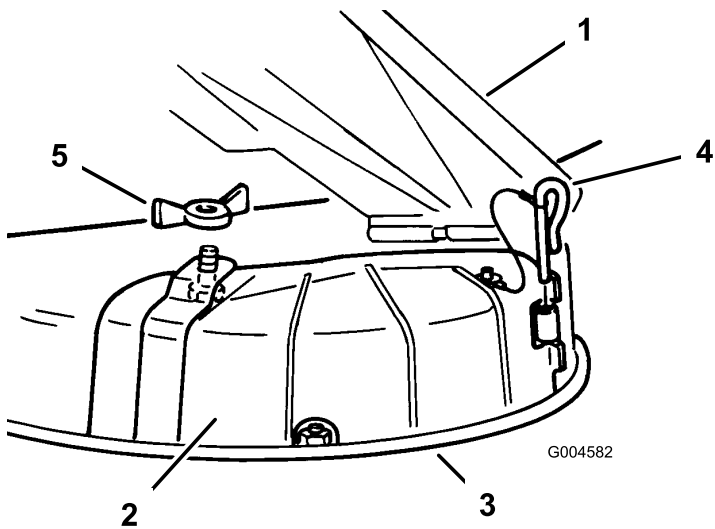

Figure 24
3. Remove the wing nut and bolt securing the cover in place (Figure 24). Retain all parts for future use.
- Remove the hinge pin securing the cover to the deck (Figure 24).
- Lift the grass deflector and place the discharge cover over the opening onto the lower lip of the mower and slide it into the front hinge (Figure 24).
- Slide the hinge pin through the hinge (Figure 24).
- Secure the discharge cover to the mower with the wing nut (Figure 24).